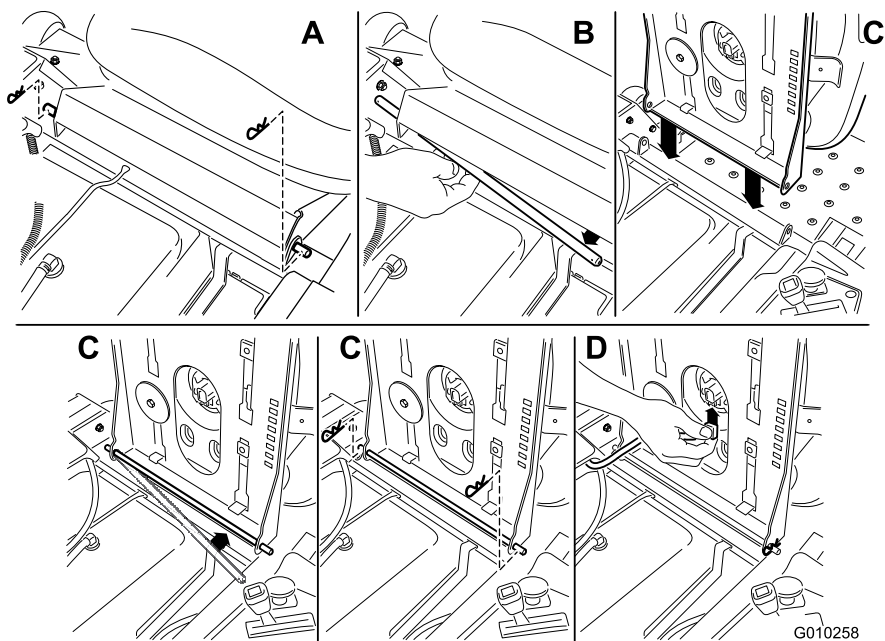

Figure 2
4. Setup the seat as follows (Figure 2):